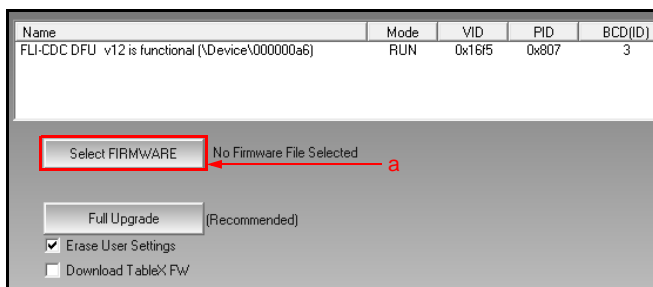

Figure 6 Click Select Firmware
- Click the Select FIRMwARE button to select the desired Firmware Upgrade file to be downloaded (Figure 6 a).